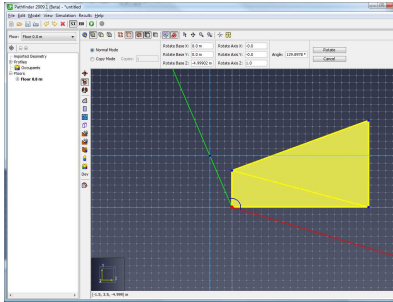

Figure 155. Reference line (red) and rotation angle (green)
- The second defines a reference vector extending from the rotation base (Figure 155).